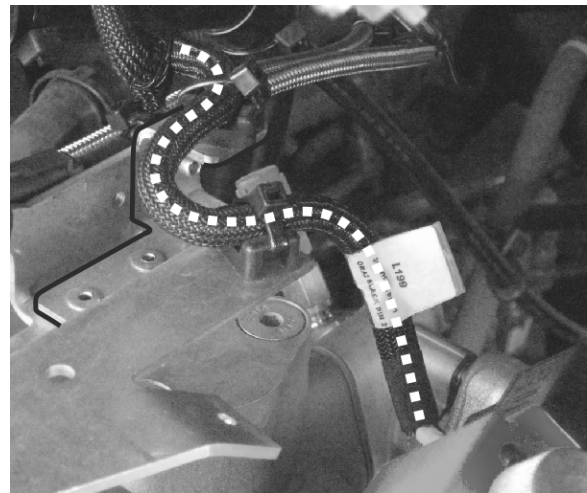

FIGURE 27
3. Secure the cable on the cable tie mounts as shown on FIGURE 27.